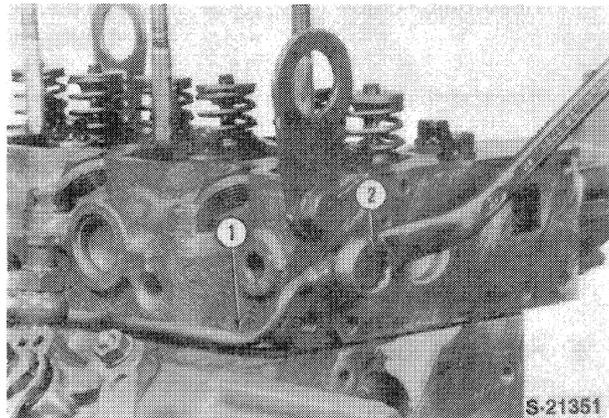

Figure 52
10. Install the oil transfer tube banjo bolt (2), Figure 52, and tighten to the specified torque.